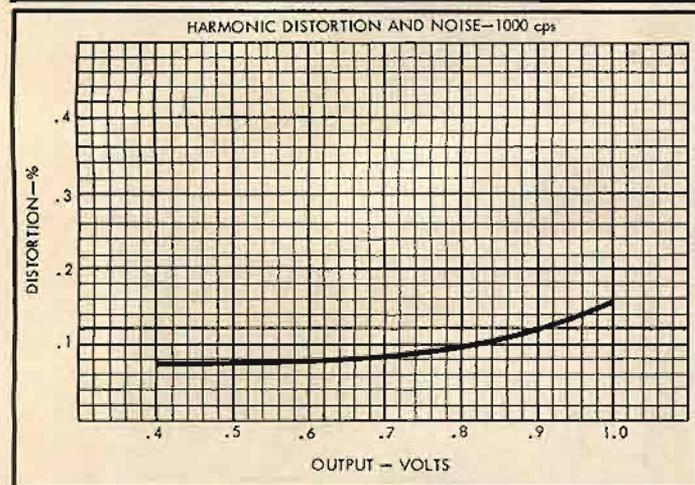

Fig. 7. Harmonic distortion for worst case.
2. Harmonic distortion (see Fig. 7)